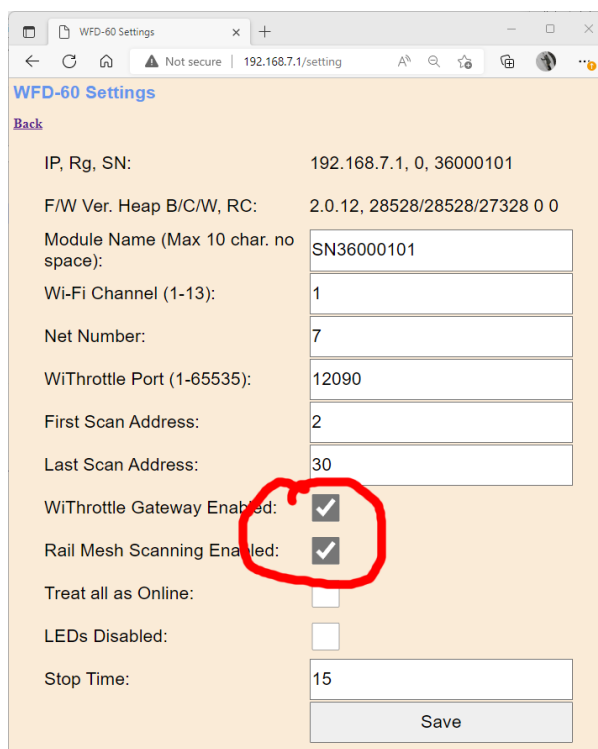

Figure 11 The Settings Page for the WFD-60. Make sure both the Circled Checkboxes are Checked
- (7) After leaving the factory or after a factory reset, the settings are configured to make it easy for you but it's not a bad idea to check so tap "Settings" and verify that the appear as in Figure 11.